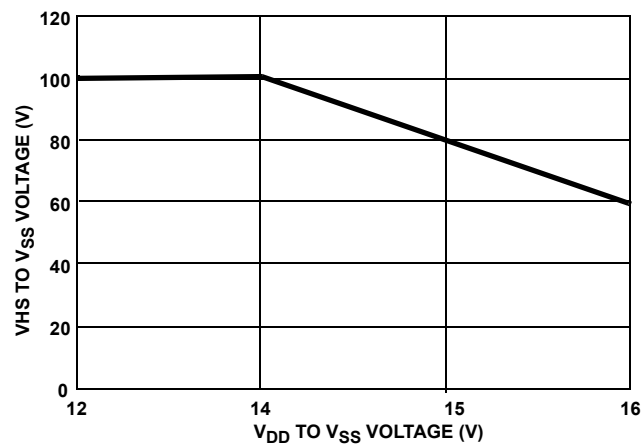

FIGURE 16. VHS VOLTAGE vs  $V_{DD}$  VOLTAGE
- The HIP2101 is capable of derated operation at supply voltages exceeding 14V. Figure 16 shows the high-side voltage derating curve for this mode of operation.